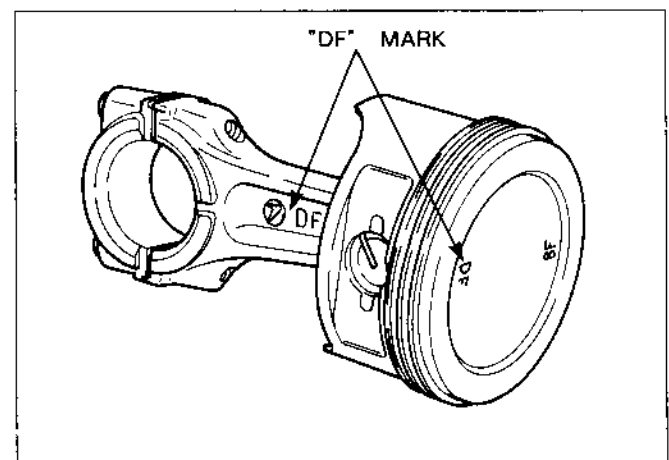

Fig. 46
On B type engine, match the mark "BF" on the piston with the mark "⑦ BF" on connecting rod. (See Fig. 46.)